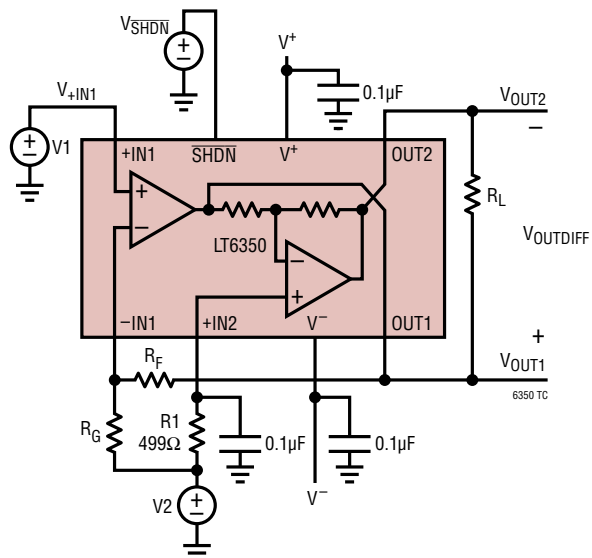

Figure 1. DC Test Circuit.
**ELECTRICAL CHARACTERISTICS** The ● denotes specifications that apply over the full specified temperature range, otherwise specifications are at  $T_A = 25^\circ\text{C}$ . Unless noted otherwise,  $V^+ = 5\text{V}$ ,  $V^- = 0\text{V}$ ,  $V_{+IN1} = V_2 = \text{Mid-Supply}$ ,  $V_{SHDN} = V^+$ ,  $R_L = \text{OPEN}$ ,  $R_F = \text{SHORT}$ ,  $R_G = \text{OPEN}$ .  $V_S$  is defined as  $(V^+ - V^-)$ .  $V_{OUTCM}$  is defined as  $(V_{OUT1} + V_{OUT2})/2$ .  $V_{OUTDIFF}$  is defined as  $(V_{OUT1} - V_{OUT2})$ . See Figure 1.
**Note 6:**  $V_{OS2}$  is measured as the total output common mode voltage offset (error between output common mode and voltage at  $V_2$ ).  $V_{OS2}$  includes the combined effects of op amp 2's voltage offset,  $I_B$ ,  $I_{OS}$  and mismatch between on-chip resistors and the  $499\Omega$  external resistor,  $R_1$  (See Figure 1).
$T_A = 25^\circ\text{C}$ ,  $V^+ = 5\text{V}$ ,  $V^- = 0\text{V}$ ,  $V_{+IN1} = V_2 = \text{Mid-Supply}$ ,  $V_{SHDN} = V^+$ ,  $R_F = \text{SHORT}$ ,  $R_G = \text{OPEN}$ ,  $R_L = \text{OPEN}$ . See Figure 1.